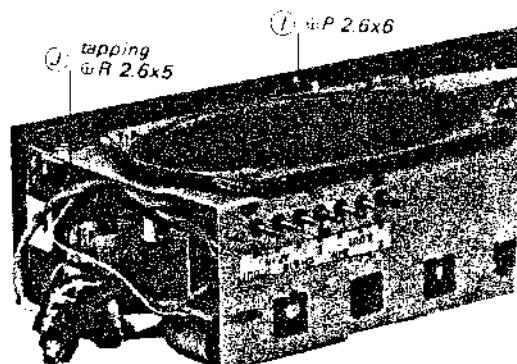

Fig. 2-6
7. Remove the screw ($\Phi P 2.6 \times 6$) marked ⑪ and the tapping screw ($\Phi R 2.6 \times 5$) marked ⑫ in Fig. 2-6.